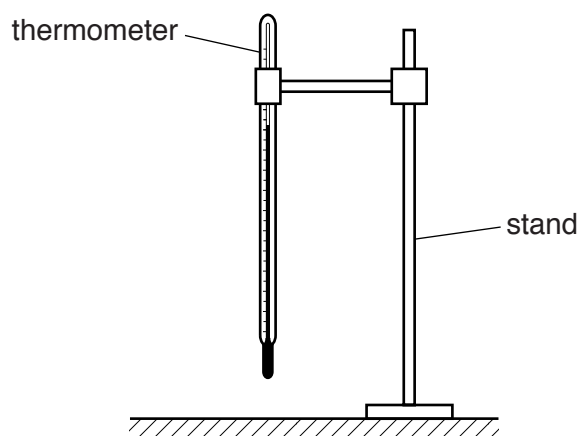

Fig. 2.1
1. The thermometer, clamp, boss, and stand are to be set up for the candidates as shown in Fig. 2.1.
Check that the thermometer is arranged as shown in Fig. 2.1.